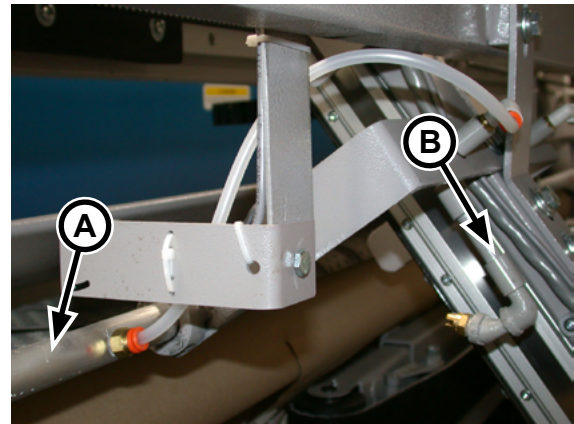

Figure 5-12: The air bar/air jet helps lay flatwork on the discharge conveyor ribbons.
The air bars (Figure 5-12, A) and jets (B) use compressed air to help create a smooth laydown of pieces onto the discharge conveyor.